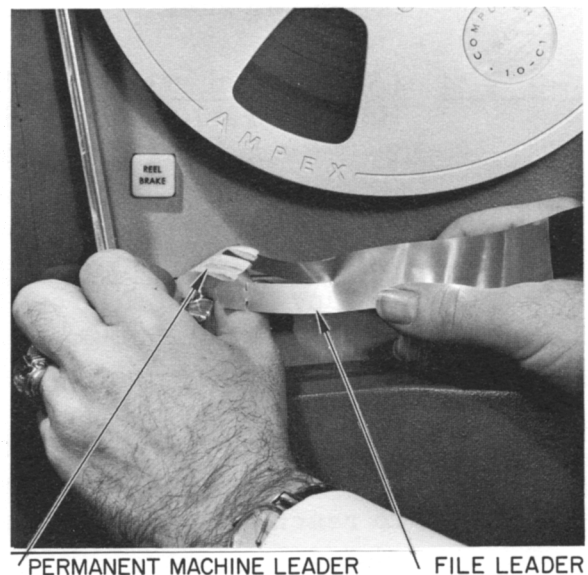

Figure 3-4
Step 6: Connect the file leader to the take-up leader as shown in figure 3-4. One-inch tape leaders have two sections in the quick-connect splice, one-half-inch tape leaders have a single section splice.